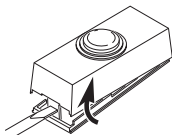
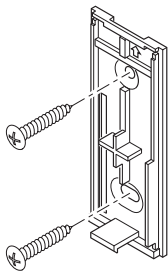

Figure 6
Figure 7
- 1. Remove orange battery tab from push button.** Remove back of case by pushing in tab on bottom with a small screwdriver (see Figure 6). Remove orange battery tab.
- **Screw mounting:** To mount with screws, remove back of case by pushing in tab on bottom with a small screwdriver (see Figure 6). *Note:* Remove material in screw holes (if needed) before mounting with screws. Attach back of case to door jamb or wall (see Figure 7). Snap front of push button on.